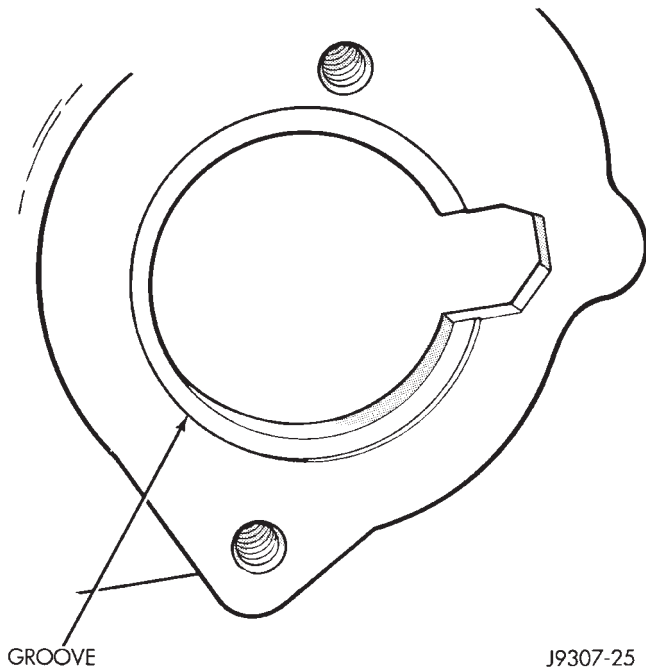

Fig. 24 Thermostat Recess
(1) Install the replacement thermostat so that the pellet, which is encircled by a coil spring, faces the engine. All thermostats are marked on the outer flange to indicate the proper installed position.
(2) Observe the recess groove in the engine cylinder head (Fig. 24).
(3) Position thermostat into this groove with arrow and air bleed hole on outer flange pointing up.
(4) Install replacement gasket and thermostat housing.